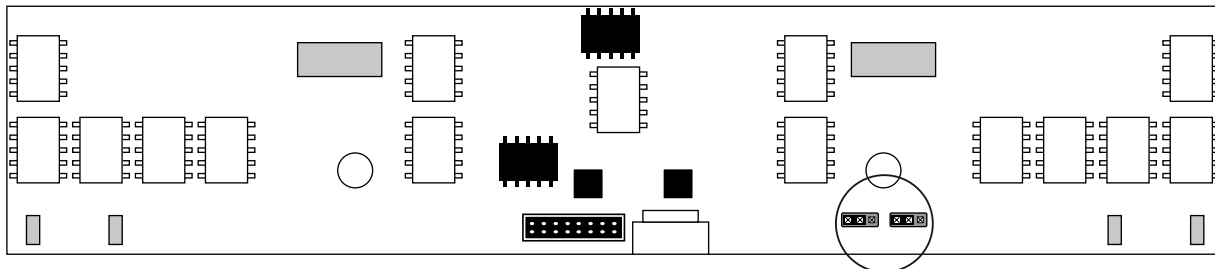

FIGURE 4: Location of jumpers on back of the rear panel
**STEP 3:** Locate jumper position J1 on the rear panel board of the unit. Using needle-nose pliers, move the jumper from between pins 1 and 2 to pins 2 and 3. (See FIGURES 4 and 5)